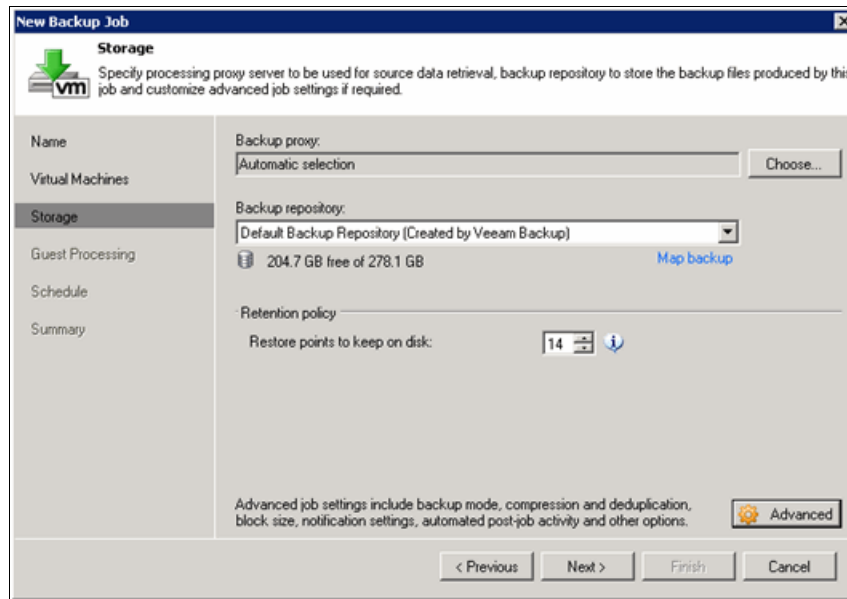

Figure 19-4 Creating backup job
- From the **Backup repository** list, select a repository that you previously created to store the created backup files (Figure 19-4).